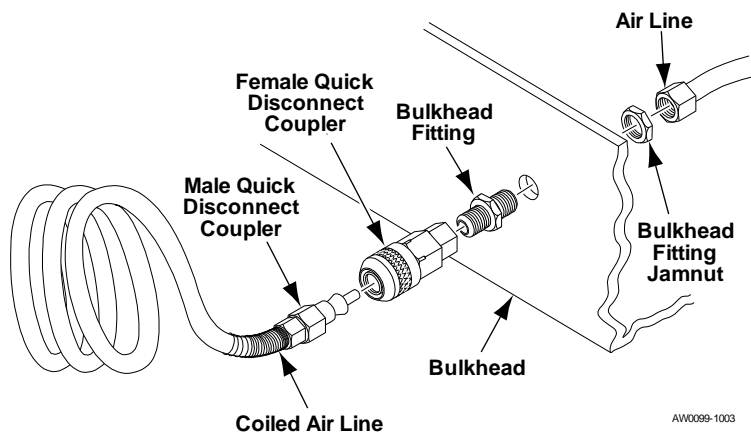

Figure 4. Installing Bulkhead Connector
10. Connect end of coiled air line (p/n: 380-0053-000) with male quick disconnect coupling to female quick disconnect coupling (p/n: 150-4092-000). See **Figure 4**.
disconnect fitting (p/n: 150-4092-000) on front bulkhead of trailer. See **Figure 4**.